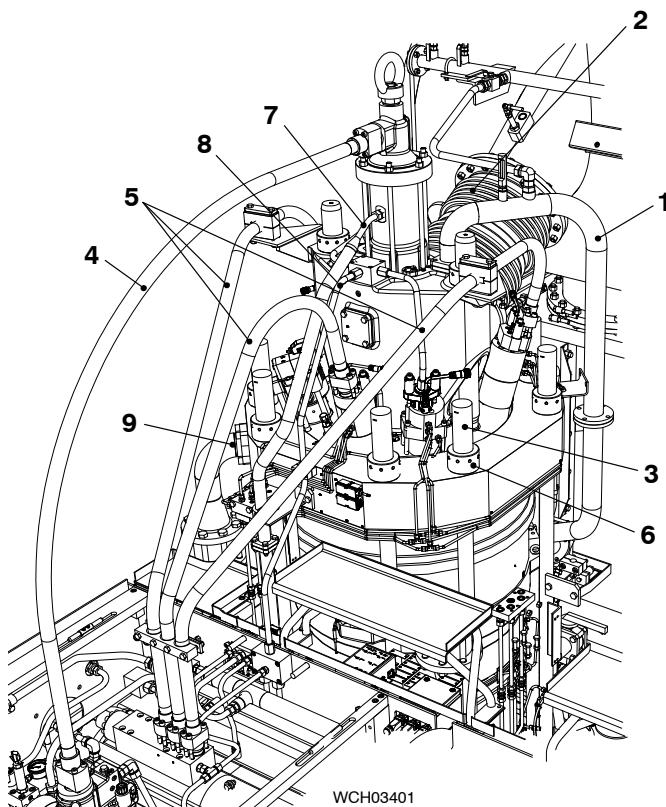

Fig.1
- 8) Close the valves from the fuel supply and pilot fuel supply. Make sure that there is no pressure in HP fuel pipes (5, Fig.1) and pilot fuel pipe (8).
- 9) Remove the hydraulic pipe (4), refer to 8460-1.
- 10) Remove the three HP fuel pipes (5), refer to 8733-1.
- 12) Make sure that there is no pressure in the cooling water pipe (1).
- 13) Remove the cooling water pipe (1).
- 14) Remove the expansion piece (2) with the slings, refer to 2751-1, paragraph 1, step 3) to step 9).
- 15) Close the starting air valve. Disconnect the air pipe (9) from the cylinder cover.
- 16) Remove the oil leakage pipe (7) and the pilot fuel pipe (8).